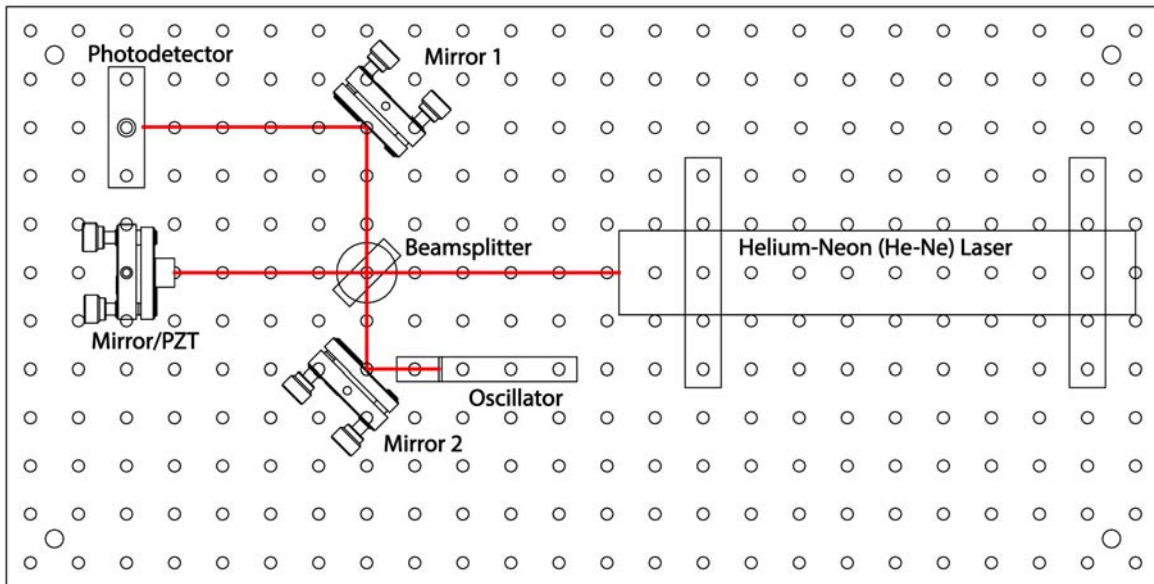

Figure 4. The interferometer set-up for the second week. Here Mirror 2 is a folding mirror, while the small mirror on the oscillator retroreflects the beam.
- With these rules in mind, your next task is to set up the optics as shown in Figure 4. We call this a “folded” interferometer because one of the arms is “folded” by Mirror 2. To begin, place a white card where Mirror 1 would sit, with the card perpendicular to the laser beam. You should see a spot on the card; note that the beam went through the beamsplitter, reflected off the Mirror/PZT, and then reflected off the Beamsplitter to make that spot.
- Next make sure both adjustment screws in Mirror 2 are near the center of their range – not all the way out or all the way in (Rule 5 above), and set Mirror 2 in place as shown in Figure 4 (but don't clamp it down yet). Align Mirror 2 so three things happen: 1) the incident laser beam hits Mirror 2 near its center (Rule 3), 2) the reflected beam hits the oscillator mirror near its center (Rule 3 again), and 3) the beam is “retroreflected” off the oscillator – that is, the beam reflecting off the oscillator mirror goes in the opposite direction of the incident beam. Note that the retroreflected beam will then appear as a second spot on the card, near the first spot.
- Once you understand the interferometer fringes to your satisfaction, remove the Diverging Lens and set up the interferometer shown in Figure 4, this time with Mirror 1 clamped down. Check that all the clamps are tight, and
- If you take a closer look at the oscillator (see Figure 4), you will see what is basically a rectangular aluminum post with a small mirror attached to one side and a magnet attached to the other side. The post behaves like a rigid body that pivots about the fixed attachment point at the base of the post (like one arm of a tuning fork). In a nutshell, this device behaves like a simple harmonic oscillator; if moving freely, the post oscillates back and forth with some resonance frequency  $\nu_0$ . If you send an oscillating current through the nearby coil, the resulting magnetic field pushes and pulls on the magnet, and you have a driven harmonic oscillator.